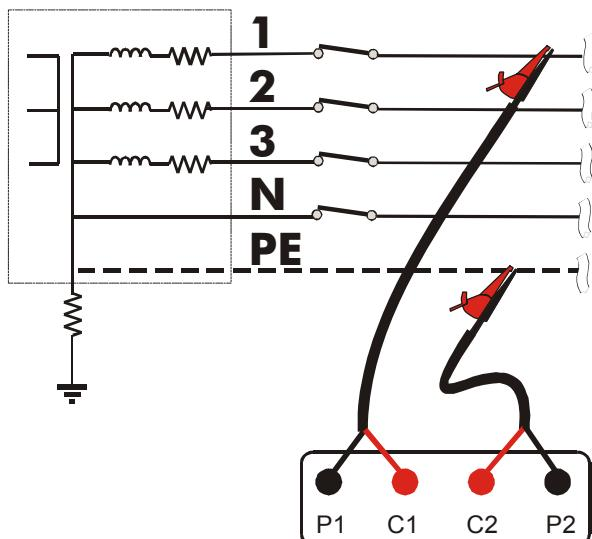

Fig. 5:Instrument connection for phase to ground impedance measurement
2. Connect the alligator clip to the Electrical pant according to Fig. 5.
3. Insert the 4 safety connectors into corresponding instrument's inputs **according to sequence P1, P2, C2, C1** (see Fig. 5).